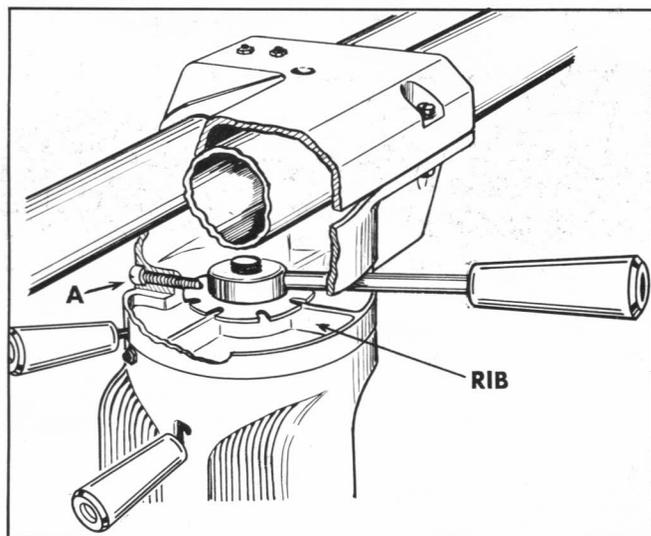
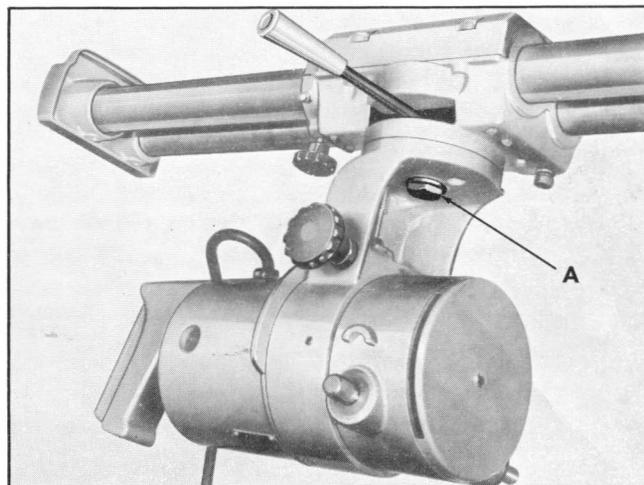

Fig. 7
Fig. 8
2. Loosen and remove lock screw, A, fig. 7, which engages one of eight notches in lock plate.
3. Turn hex head bolt, A, fig 8, to the right until next notch in lock plate, see fig. 7, can be engaged by screw previously removed.
You will notice that one notch is aligned with rib, see fig. 7. Turning hex head bolt to the right until next notch is in line with rib automatically aligns the proper notch for engagement of lock screw.